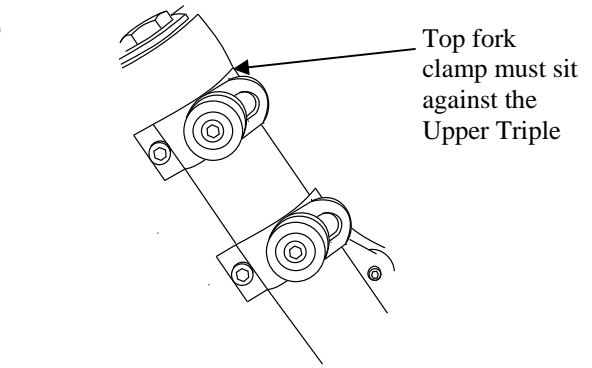

Fig. 4
4. Start with Fork Clamp Bushing adjusted to rear of slot (Fig 4) Then adjust as needed and check for clearance. (See warning above.)